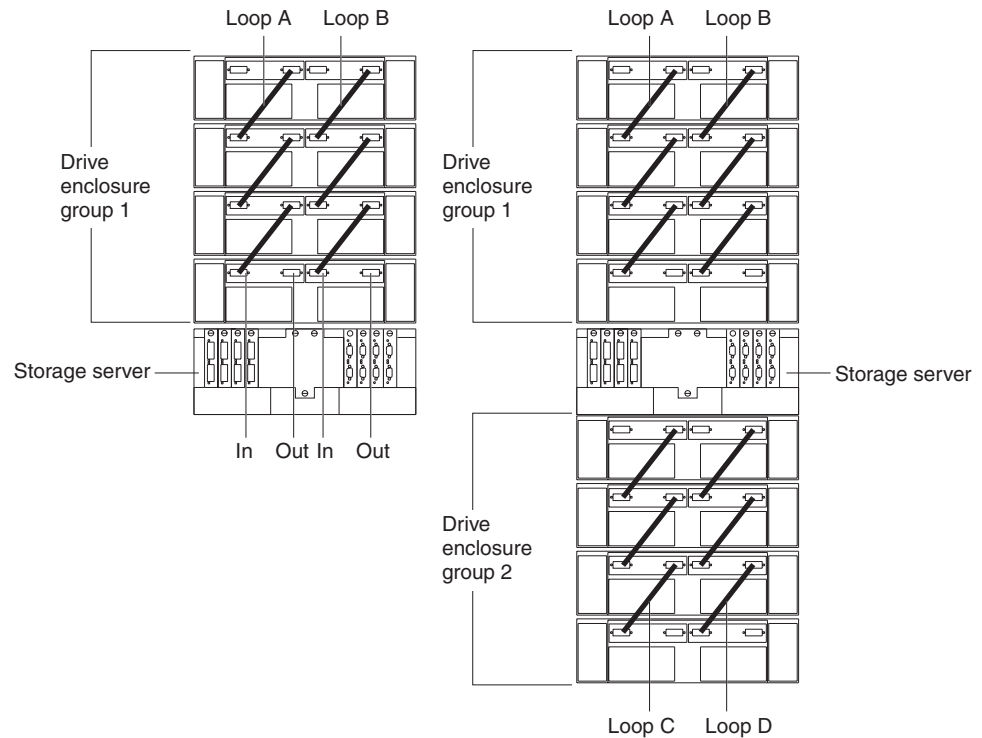

Figure 31. Connecting a second redundant drive enclosure group (loops C and D)
4. Repeat Step 1 on page 26 through Step 3 on page 28 to connect a second redundant drive enclosure group. Figure 31 on page 30 shows a second redundant drive enclosure group (loop C and loop D on drive enclosure group